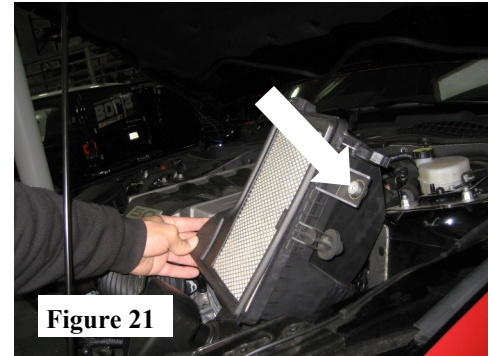

Figure 21
22. Place lower portion of the air cleaner assembly back in the vehicle and install retaining bolt (10mm head). Torque to 8ft.lbs. (See Fig. 21)